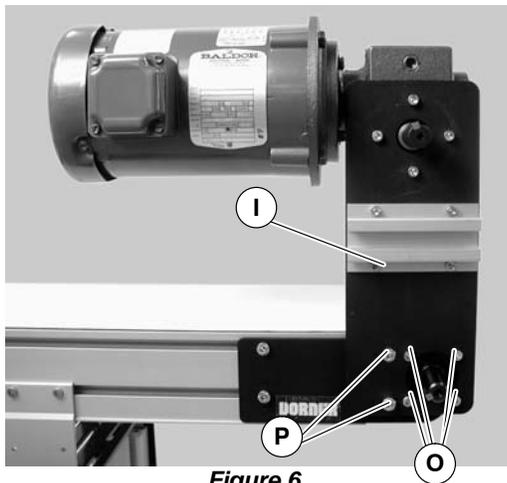

Figure 6
4. Attach mount assembly (I of Figure 6) with two (2) M8 screws (P) and four (4) M6 screws (O). Tighten M6 screws (O) to 146 in-lbs (16.5 N-m) and M8 screws (P) to 288 in-lbs (32.5 N-m).